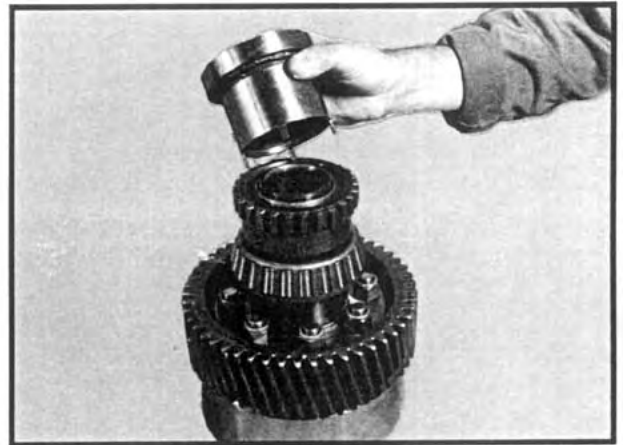

Fig 31
5. Remove the clutch gear retaining locknut from the front differential case half with Fabco tool 866-0368 or equivalent. See Figure 31. Slide off the clutch gear.